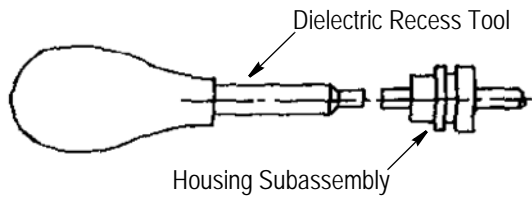

Figure 5
7. Place the dielectric recess tool on the dielectric and push to recess the dielectric with the cable outer conductor. See Figure 5.